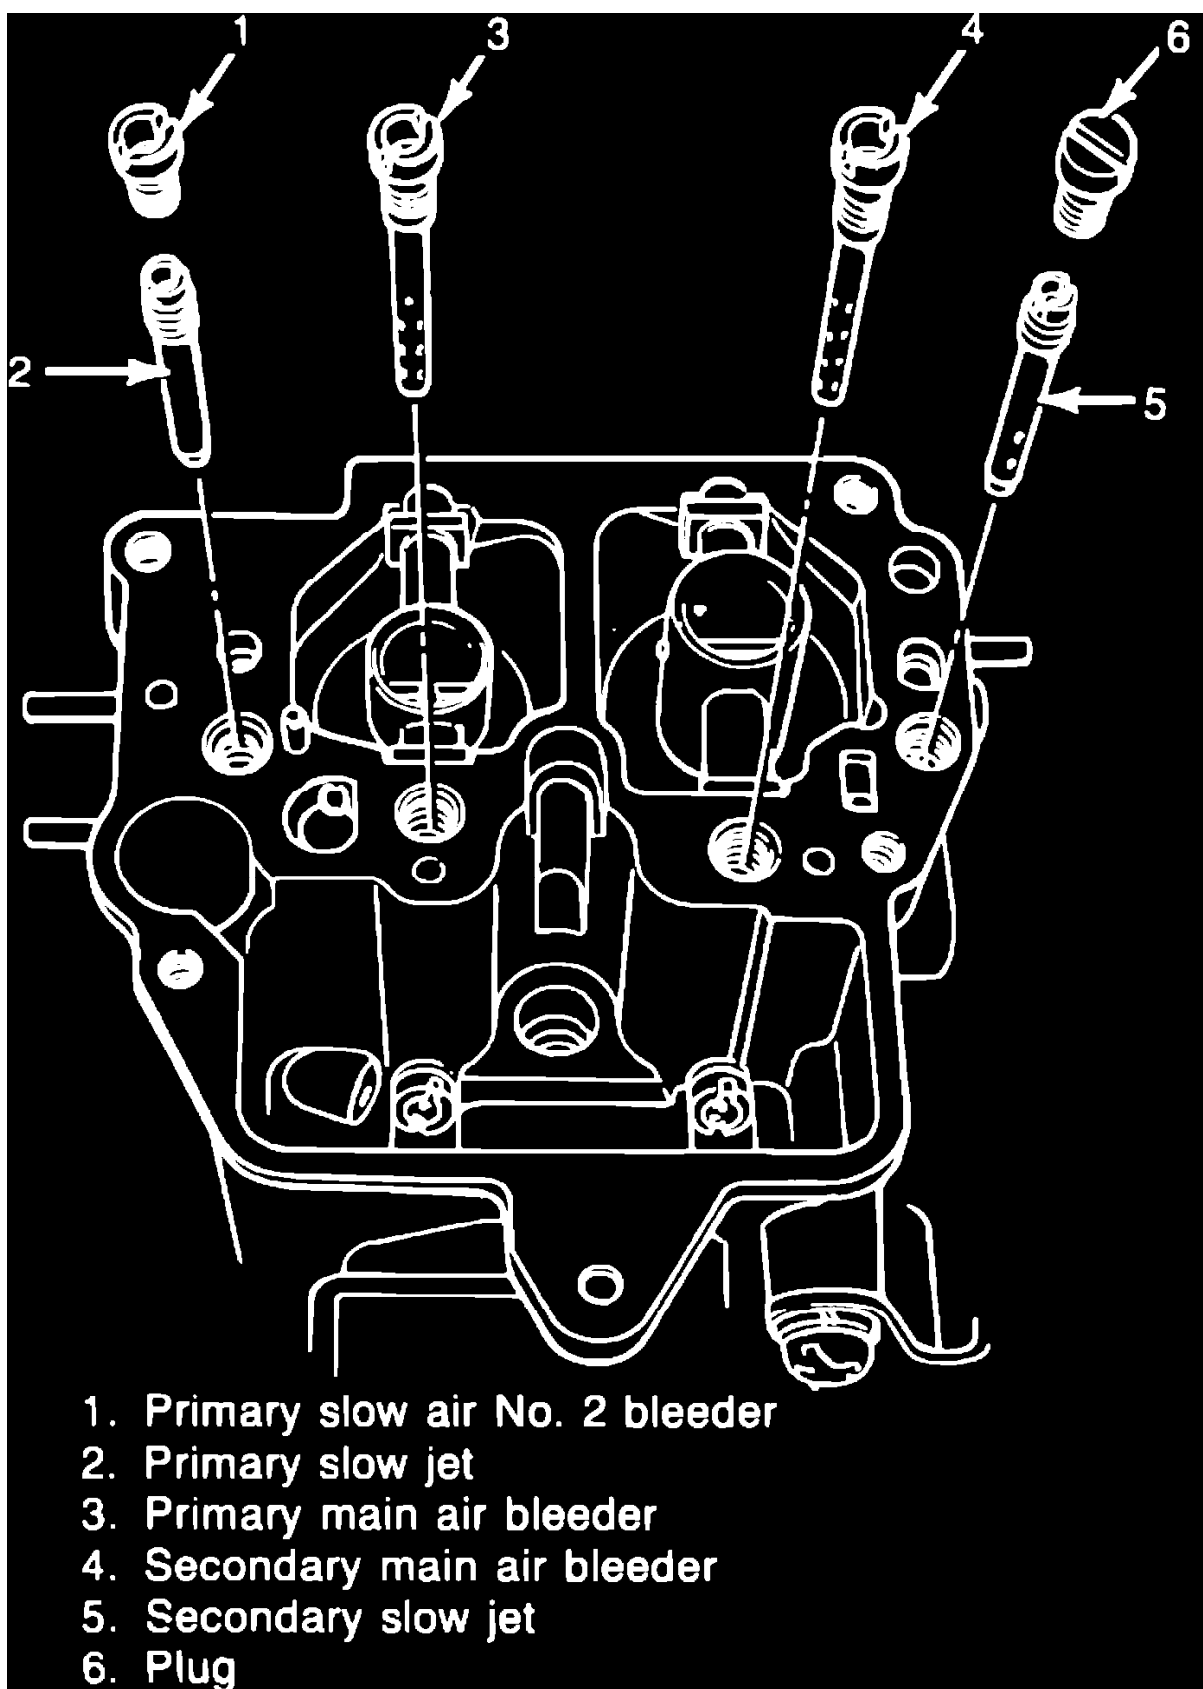

Fig. 2 Jet & air bleed identification
7. Install metering tubes, jets and air bleed orifices, **Fig. 2**.